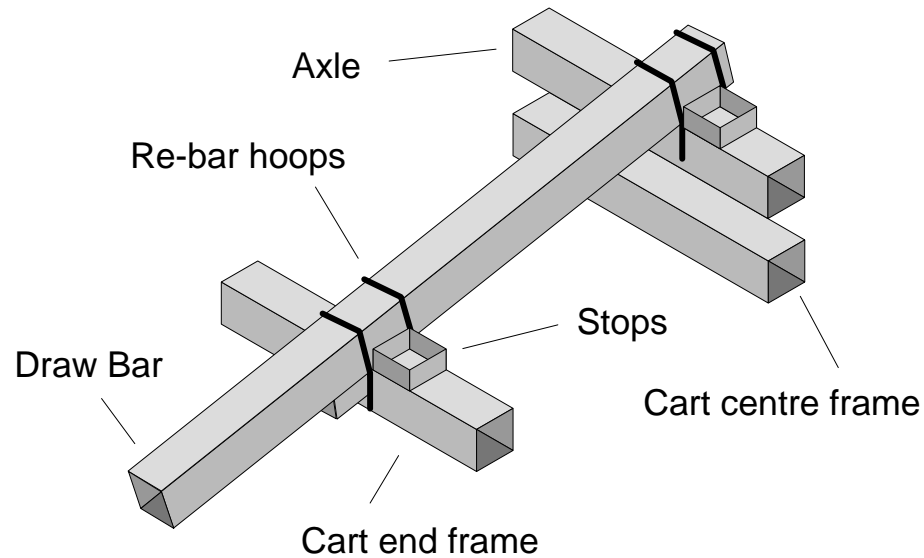

Figure 8: method of fixing draw bar to body. (View of cart upside down.)
- 6) Nearly there! Now you need to fix the draw bar (or pole or dissel boom - there are so many names for this!). It is best to fix the draw bar to the body so it can be taken off and replaced if it gets damaged. A good way to do this is with stops made of short lengths of box tubing, and round bar welded on as shown in Figure 8. The stops carry the main loads and it is easy to cut through the re-bar hoops if you need to change the draw bar. You will need to put new hoops on of course when you put the new draw bar on.